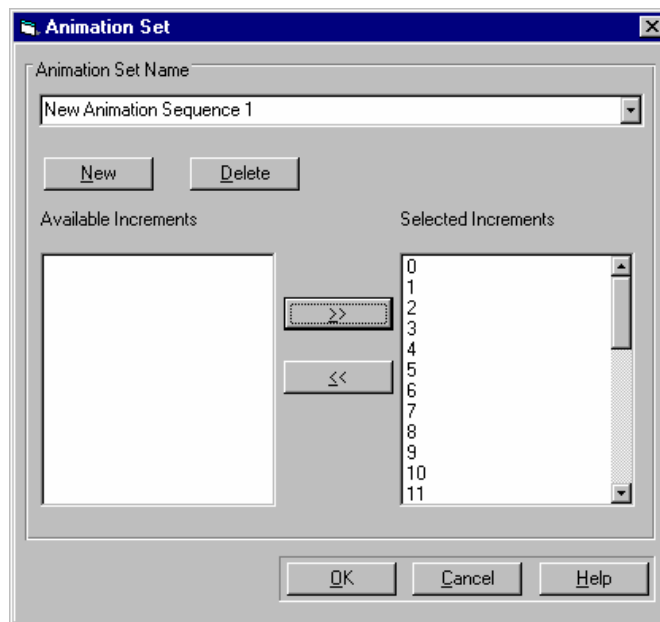

Figure 10 - Setting up an analysis sequence
Step 4 Click the ">>" button to add the selected increments to the list on the right hand side. See figure 10